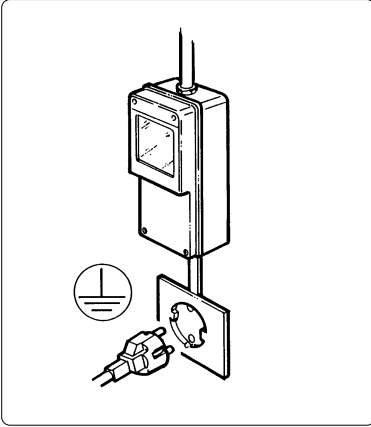

Fig. 7
- It is absolutely necessary, for proper installation, that a special outlet controlled by a unipolar switch be set up with a distance between the contacts equal to or greater than 3 mm, in conformity with current national safety standards (see fig. 7).